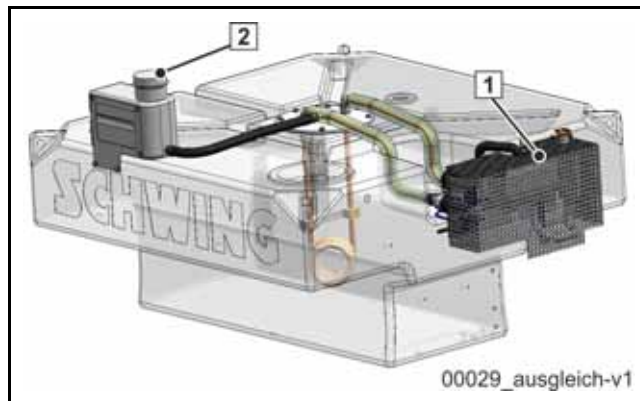
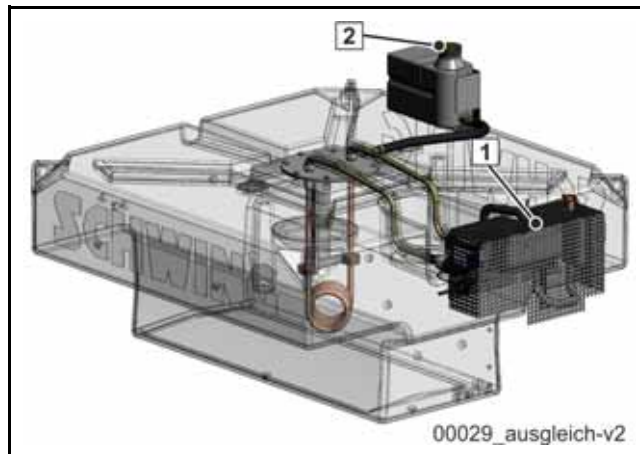

Fig. 488
Fig. 489
The water heater **(1) (Fig. 488)** is a piece of special equipment.
There are two possible installation points for the expansion tank: (2) (**Fig. 488**) or (**Fig. 489**).
- Make sure there is enough fluid in the heating circuit's expansion tank (2).